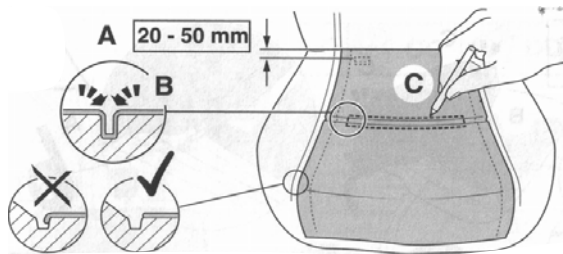

Fig 4
8. Position the heating pad with the label facing down and the wire harness routed towards the back of the seat area. Adjust the pad so the thermostat is located approx. 25-50 mm (1-2 in) forward of the back rest. In cases where the seat cushion contains lateral grooves (side to side) to allow for trim cover attachment, a section of the heating pad will need to be cut out. See Fig 4